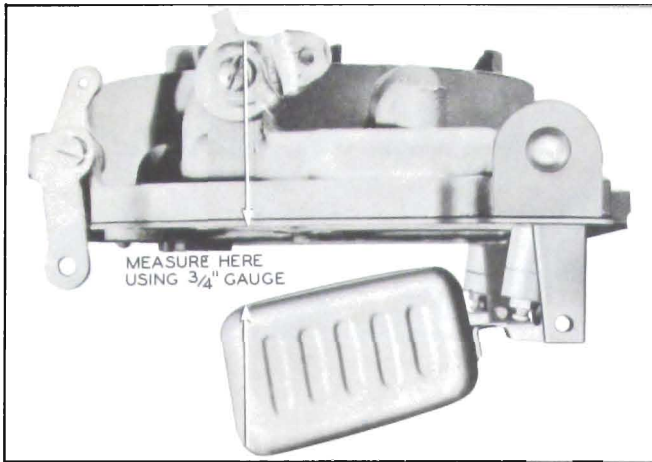

Figure 3-41—Checking Float Drop
11. **Adjust Float Drop.** With air horn held in upright position, measure vertical distance from air horn gasket to outer end of each float using a scale. Bend float arm tang as required to obtain 3/4" measurement. See Figure 3-41.